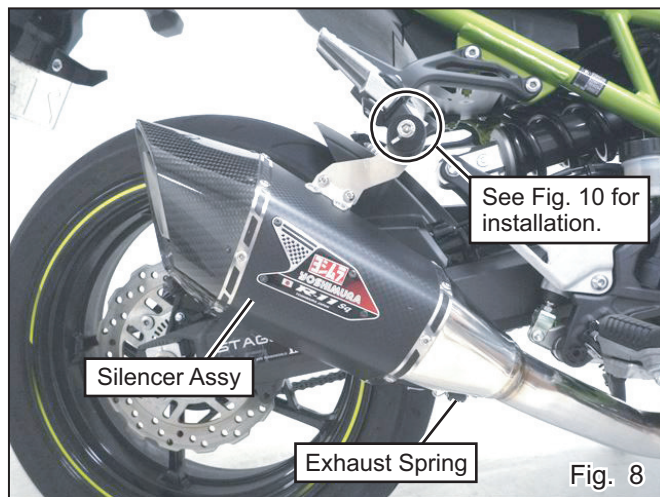

Fig. 8
- 9) Mount Silencer Assembly on Tailpipe and install Exhaust Spring. Then fix Silencer Bracket and stock silencer bracket together with stock bolt, stock washer and stock nut. Tighten the bolt by hand only at this stage. (See Fig. 8 & 9 on next page)